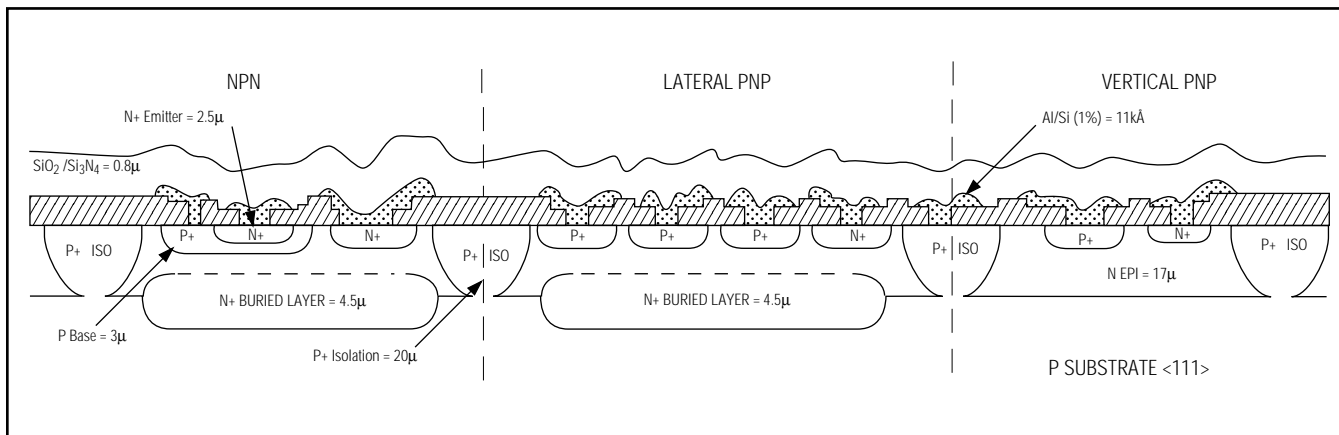

FIGURE 9. BIP PROCESS
### (6) BIP (Refer to Figure 9.)